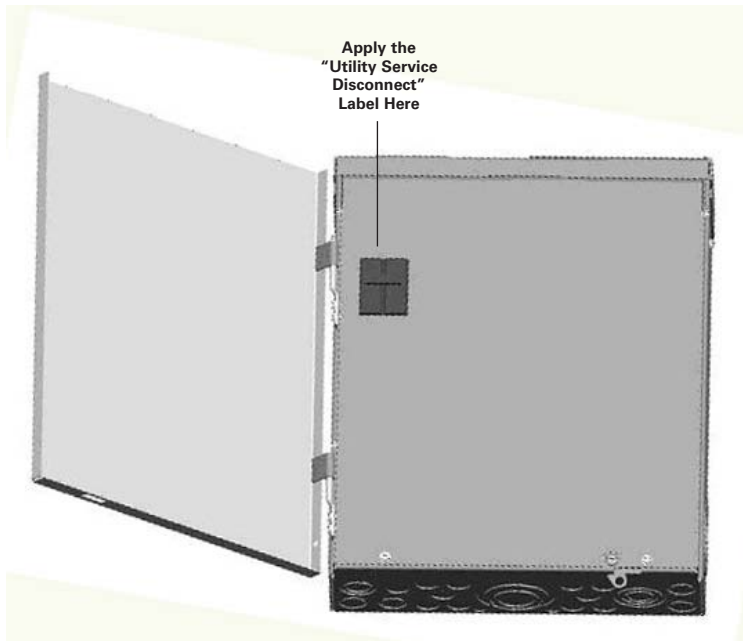

Figure 1. Label Placement for Service Entrance Applications.
- Step 3: Apply the "UTILITY SERVICE DISCONNECT" label adjacent to the UTILITY circuit breaker on the dead-front (see Figure 1).